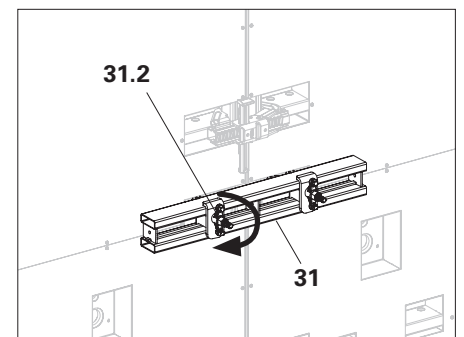

Fig. A3.10
3. Tighten Nut (31.2). (Fig. A3.10)